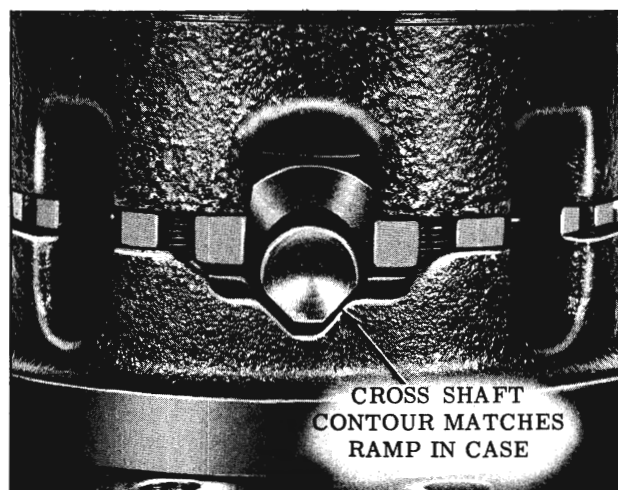

Fig. 6-119 Matching Cross Shafts and Case Ramps
6. Position pinions on proper cross shafts. Install cross shaft assemblies in original position in case with beveled sides of shafts matching ramps in case and cover as shown in Fig. 6-119.